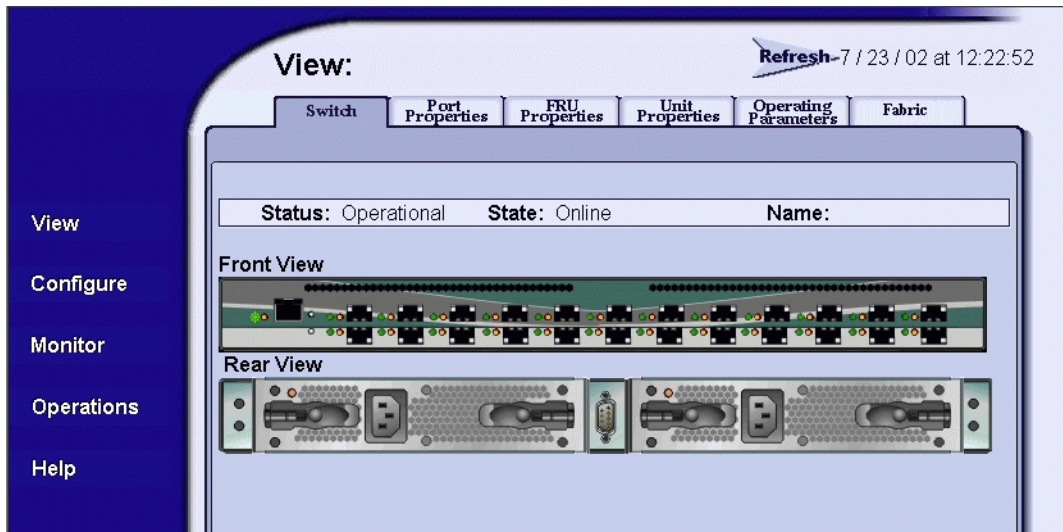

Figure 3-2 View Panel (SANpilot Interface)
- d. Type the user name and password obtained in step 1, and click OK. The SANpilot interface opens with the *View* panel displayed (Figure 3-2 on page 3-8).